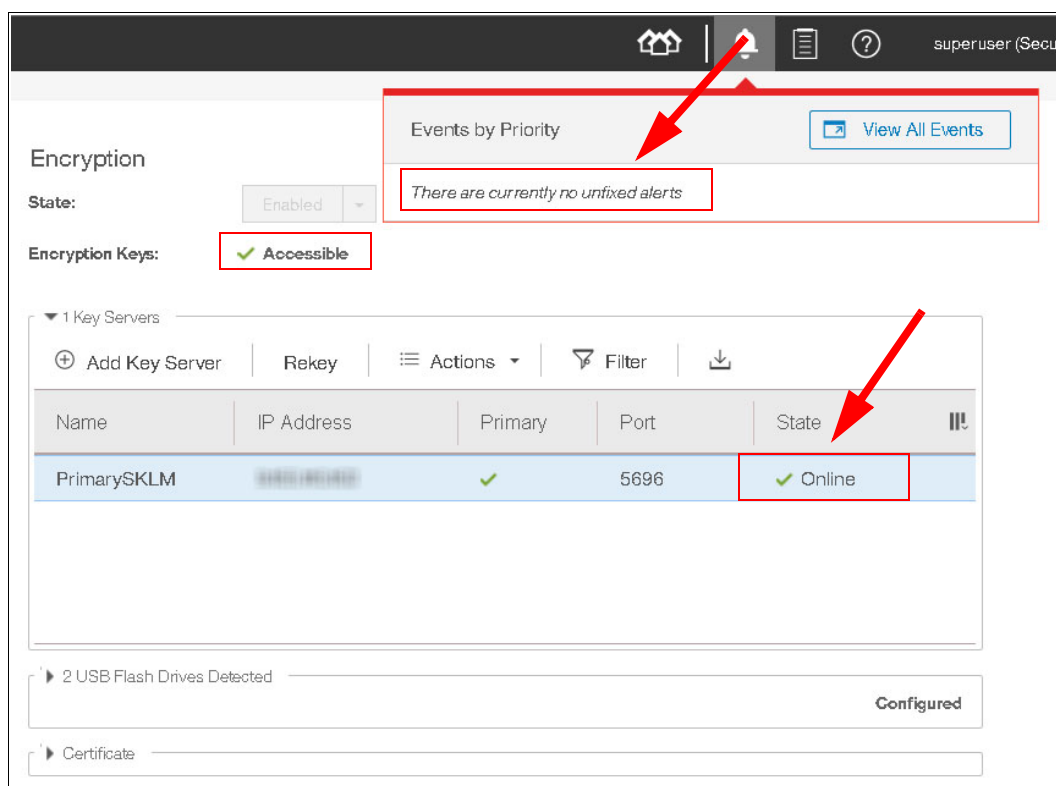

Figure 7-73 Key server is online after test and no error message are shown
4. The key server test should complete without error. In the Encryption window, the key server is expected to show an online state and no error messages (see Figure 7-73). Repeat this test for all configured key servers.